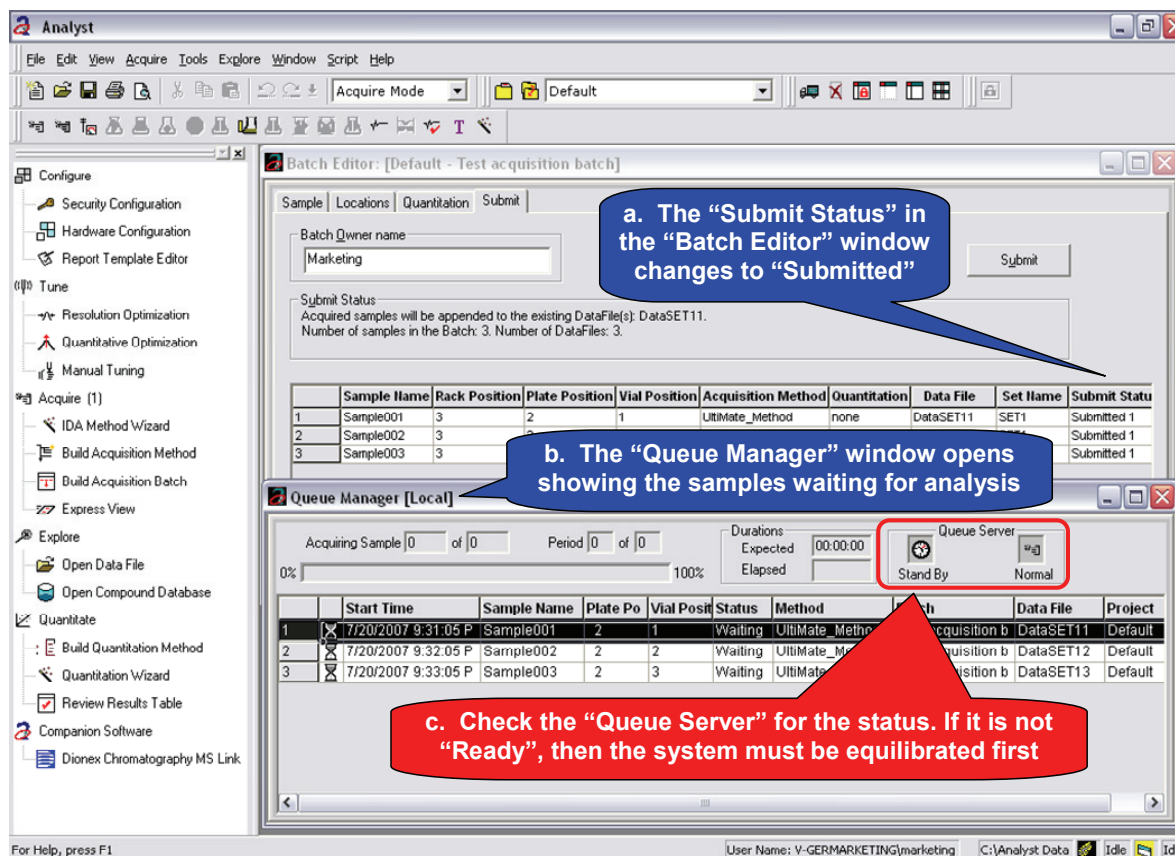

Fig. 31: In this arrangement of the windows both the Batch Editor and the Queue Manager is visible
The windows may open in a maximized fashion, so the Queue Manager may cover the Batch Editor in contrast to Fig. 31, where the windows are arranged in a way that both are visible.
2. Check the “Queue Server” for the system status, Fig. 31. It must be “Ready” (Fig. 14b) before you can start the data acquisition.